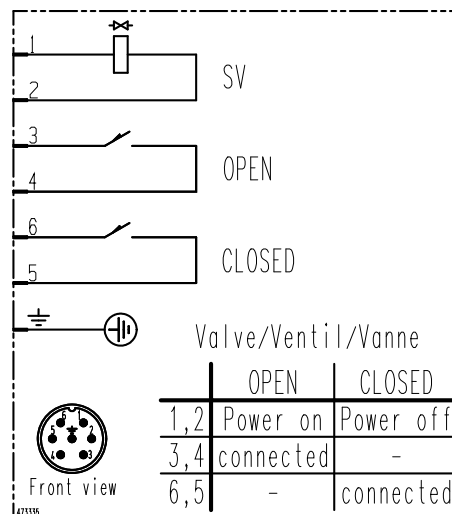

Figure 4-2 Wiring diagram
- Valve with pilot valve; see «Figure 4-2» on page 22.